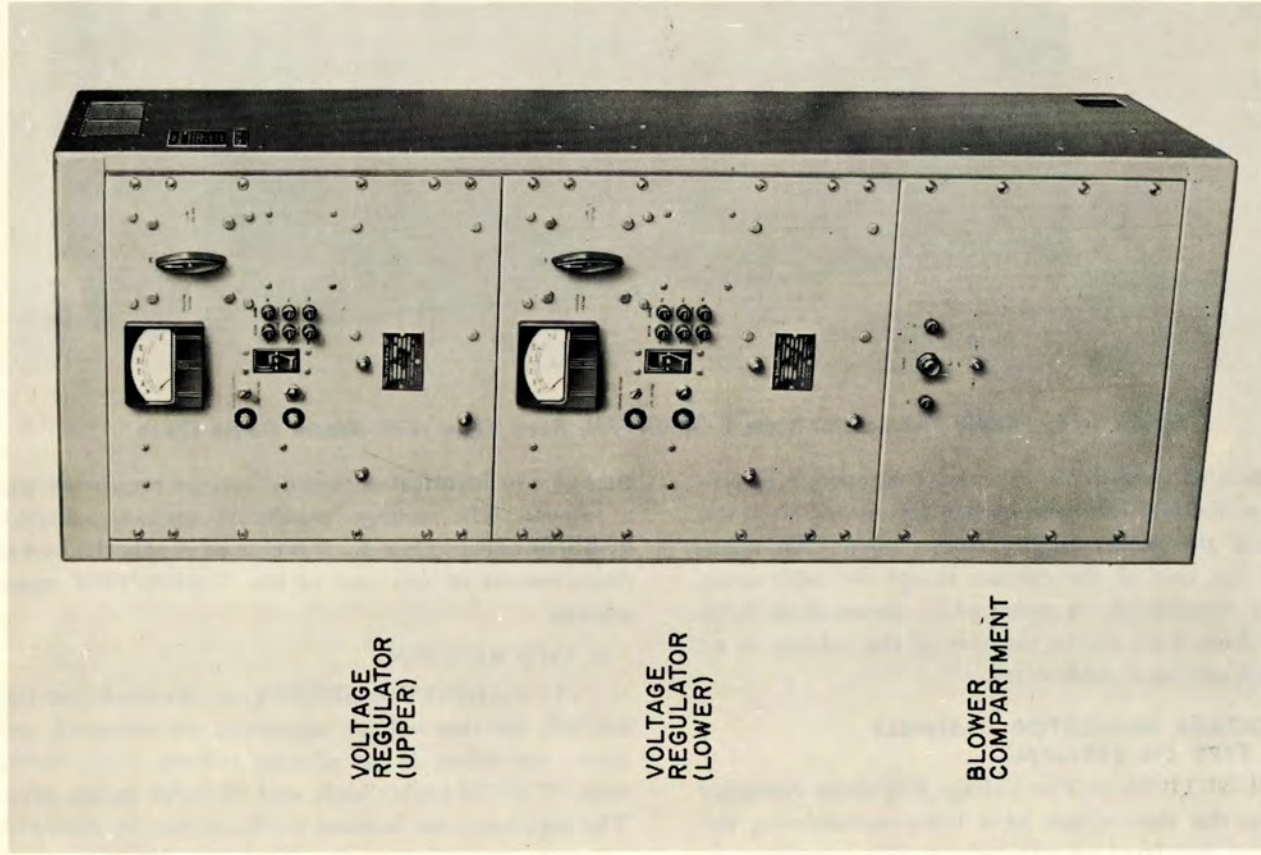

Figure 1-5. Voltage Regulator Assembly Type CN-239/FPN, Front View
(1) **CABINET ASSEMBLY.** — As shown in figure 1-5, the two voltage regulators are mounted, one above the other, in an all-steel cabinet, $21\frac{1}{8}$ inches wide, $57\text{-}25/32$ inches high, and $19\text{-}13/16$ inches deep. The regulators are fastened to the cabinet by means of 12 screws located along the sides of the front panels of